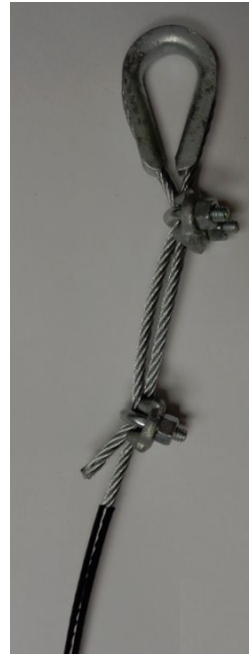

Figure 7 – Thimble, Rope and Rope Clips Assembly
3. Maintain the loop by clamping the wire rope with the two rope clips tightly so that the thimble does not fall out as shown in *Figure 7*.